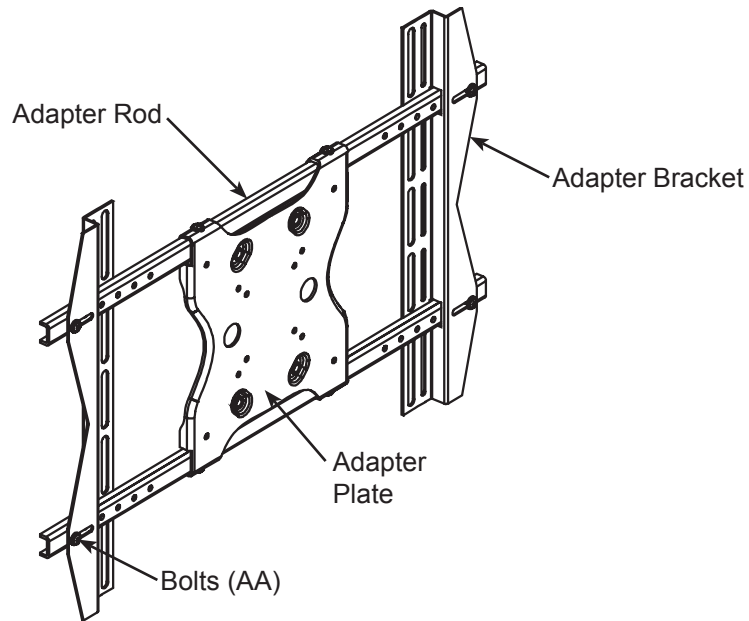

Figure 2
1. Slide the Adapter Brackets onto each end of the Adapter Rods (Figure 2).